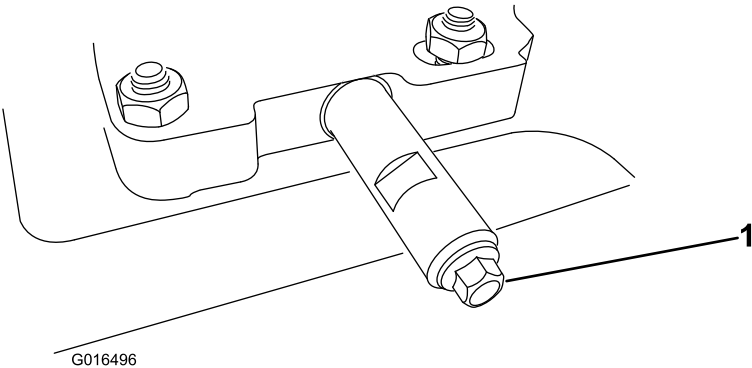

Figure 47
- 1. Clean the area around the oil drain cap (Figure 47).